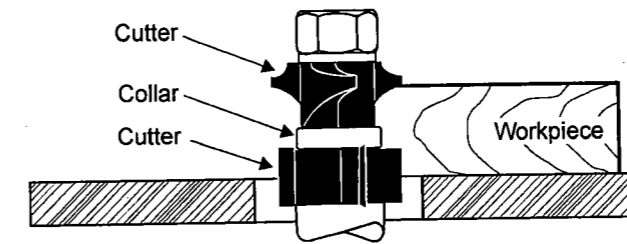

FIGURE 24
3. Using the collar between the two cutters has the advantages and disadvantages of the first two procedures, and is frequently used where both edges of the work are to be molded, Figure 24.